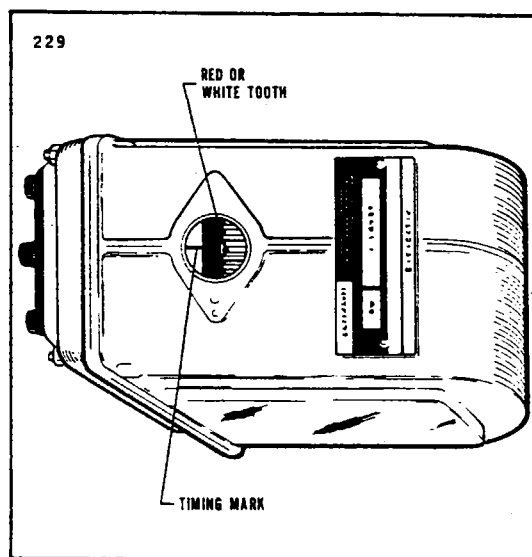

Figure 8-16. Magneto Timing Marks
c. Remove the inspection plug on the left magneto and turn the drive coupling in direction of normal rotation until the first painted chamfered tooth is aligned in the center of the inspection hole. (Refer to Figure 8-16.) Without allowing the gear to turn from this position, assemble gasket and magneto to the engine. Se-